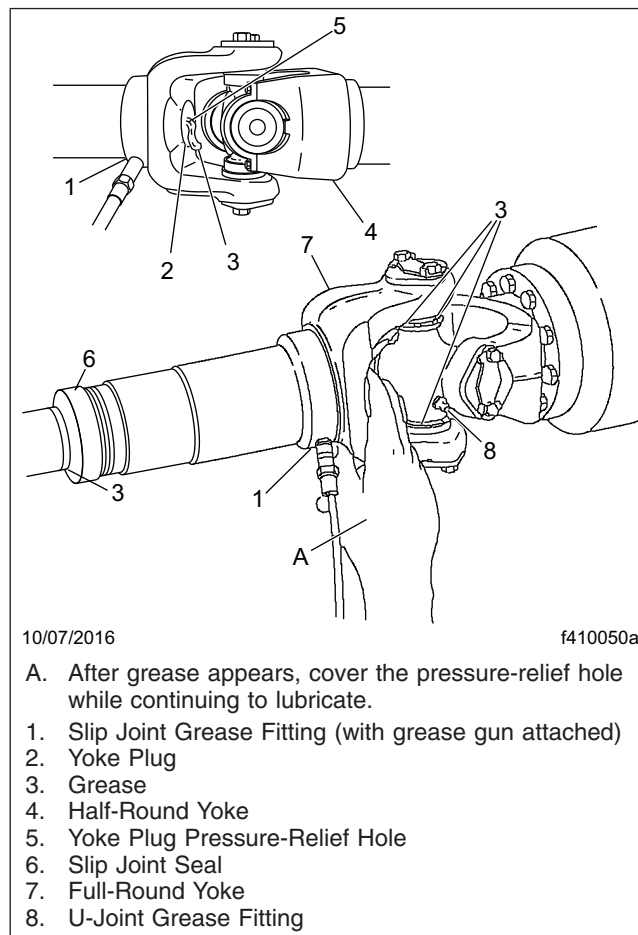

Fig. 5, Slip Joint and U-Joint Lubrication
9. For driveshafts with slip joints, check to be sure the yoke plug is not loose or missing. See **Fig. 5**, Ref. 2. Repair or replace the yoke plug as needed. If the yoke plug is missing, the splined shaft may be hitting the plug and knocking it out; contact your Regional Service Office for assistance in determining the correct driveshaft length.
2. Wipe all old grease and dirt from each U-joint grease fitting. See **Fig. 5**, Ref. 8.
1. If equipped with a grease fitting, wipe all old grease and dirt from the slip joint grease fitting. See **Fig. 5**, Ref. 1.
2. Use a hand-type grease gun or a high-pressure gun with a low-pressure adapter, to lubricate the slip joint. Add multipurpose chassis grease (lithium 12-hydroxy stearate, NLGI Grade 1 or Grade 2, with EP additives) until it appears at the pressure-relief hole in the yoke plug. Then cover the relief hole with your finger, while continuing to apply gun pressure until new grease appears at the slip joint seal. See **Fig. 5**. This ensures complete lubrication of the splines.